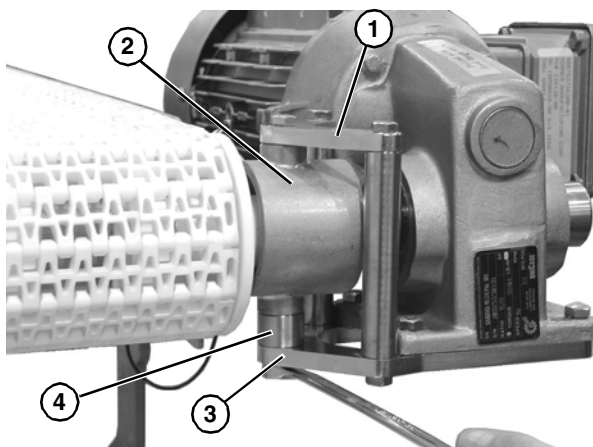

Figure 14
3. Attach the upper gearhead mounting bar (**Figure 14, item 1**) to the motor mounting bracket (**Figure 14, item 2**).
4. Attach the lower gearhead mounting bar (**Figure 14, item 3**) to the motor mounting bracket (**Figure 14, item 2**). Use Spacer (**Figure 14, item 4**)